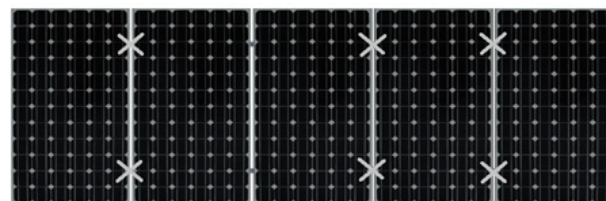

Fig. 31
- When there is an odd number of PV Modules in each row, install grounding clips at positions marked X in Fig. 31, where the number of Grounding Clips = number of PV Modules + 1. Figure shows 5 x PV Modules requiring 6 x grounding clips.